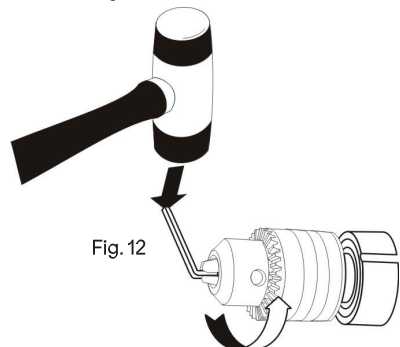

Fig. 12
7. Insert the hex key into the chuck and tighten jaws of chuck securely (Fig. 12). Tap the hex key sharply with a mallet in a COUNTERCLOCKWISE direction. This will loosen the chuck on the spindle. The chuck can now be unscrewed and removed from the spindle by hand.